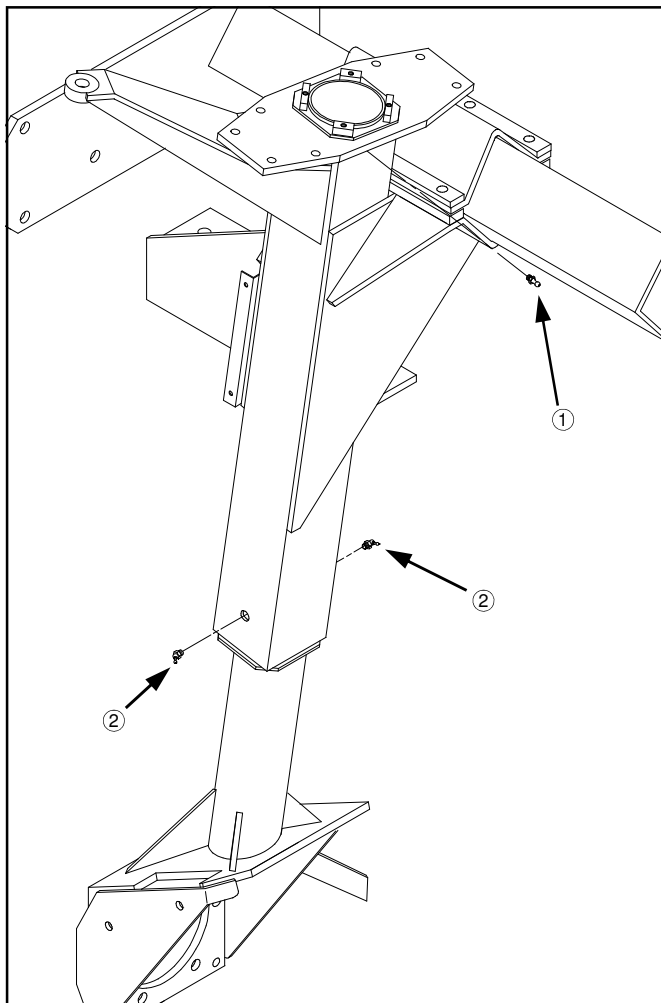

FIG 65-1
Hagie DTS 8T leg assemblies are constructed with upper and lower nylon bearings for suspension telescoping between the inner and outer leg weldments. These bearings must be lubricated to avoid bearing failure and ensure optimal ride quality. There are grease zerks located on the sides of the leg assemblies, one for the upper bearing (fig. 65-1, item 1) and two for the lower bearing (fig. 65-1, item 2). Greasing all bearings on all four legs daily is very important.